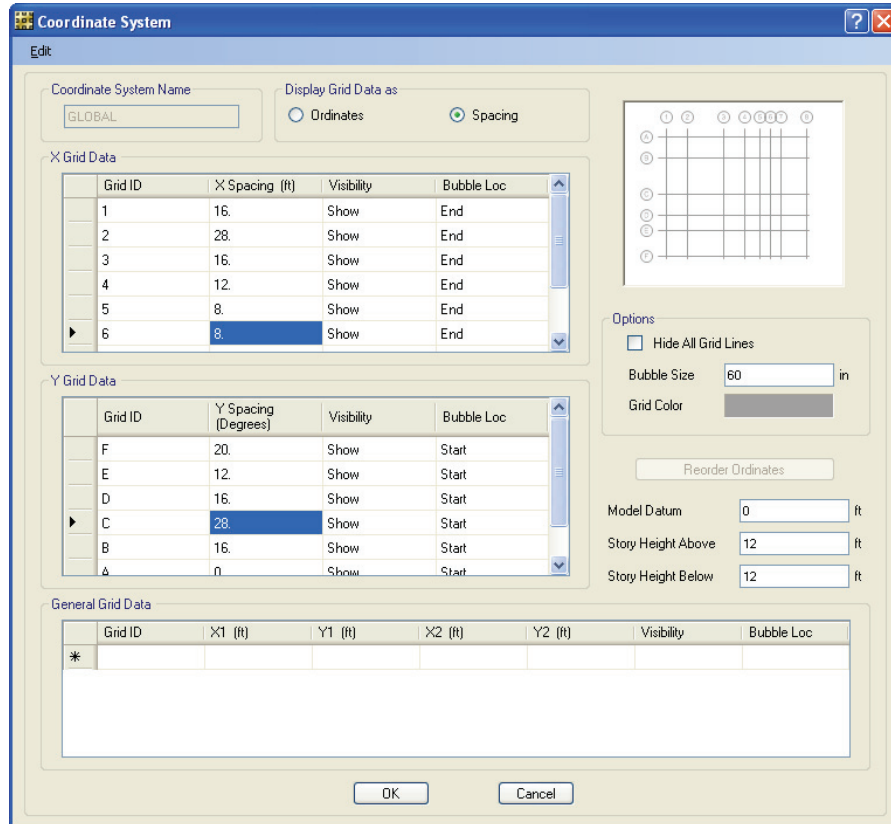

Figure 55 Coordinate System form
6. Click the **Edit Grid** button on the Coordinate System Definition form to display the form shown in Figure 55. The Coordinate System form is used to modify and edit the grid definitions, as well as set the top of model datum. It also allows the user to set the display options associated with the grids.